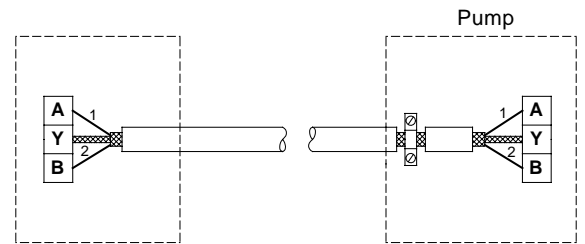

Fig. 7 Connection with screened 2-core cable
- If a screened 2-core cable is used in the existing installation, it must be connected as shown in fig. 7.